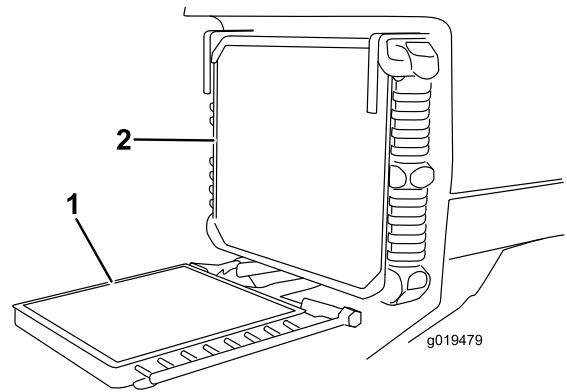

Figure 71
3. Unscrew knobs and pivot oil cooler rearward (Figure 71). Clean both sides of oil cooler and radiator area thoroughly with compressed air. Do not use water. Open hood and blow debris out toward back of machine. Pivot oil cooler back into position and tighten knobs.